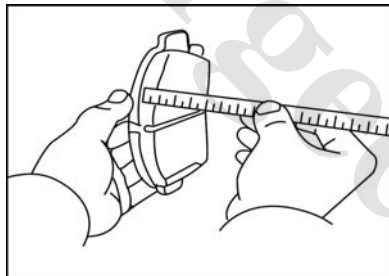

Fig. 2-67
2) Check the thickness of the lining of brake pad. Measure the thickness by a ruler. See Fig. 2-67.